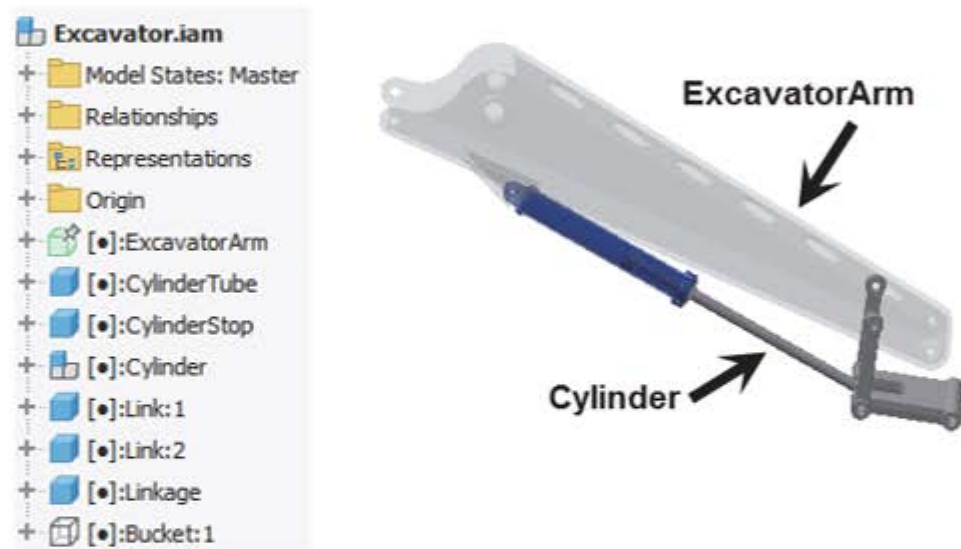

Figure 18–27
10. Which of the following statements are true for the Model browser and assembly shown in Figure 18–27? (Select all that apply.)